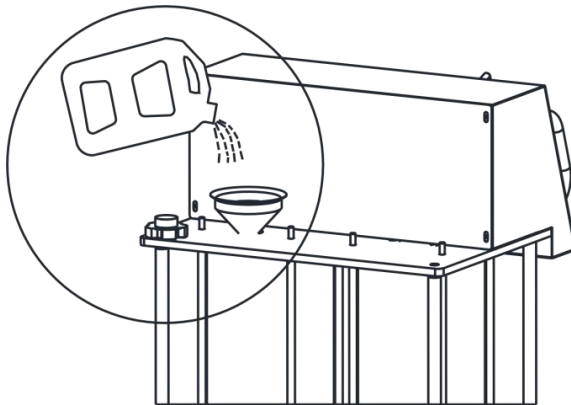

Fig.3
2. Consult vehicle manual to get coolant specifications and quantity information. Open the new tank cap at equipment rear side, fill proper amount of coolant through the funnel, and tighten the tank's cap to seal the tank. (Fig. 3)